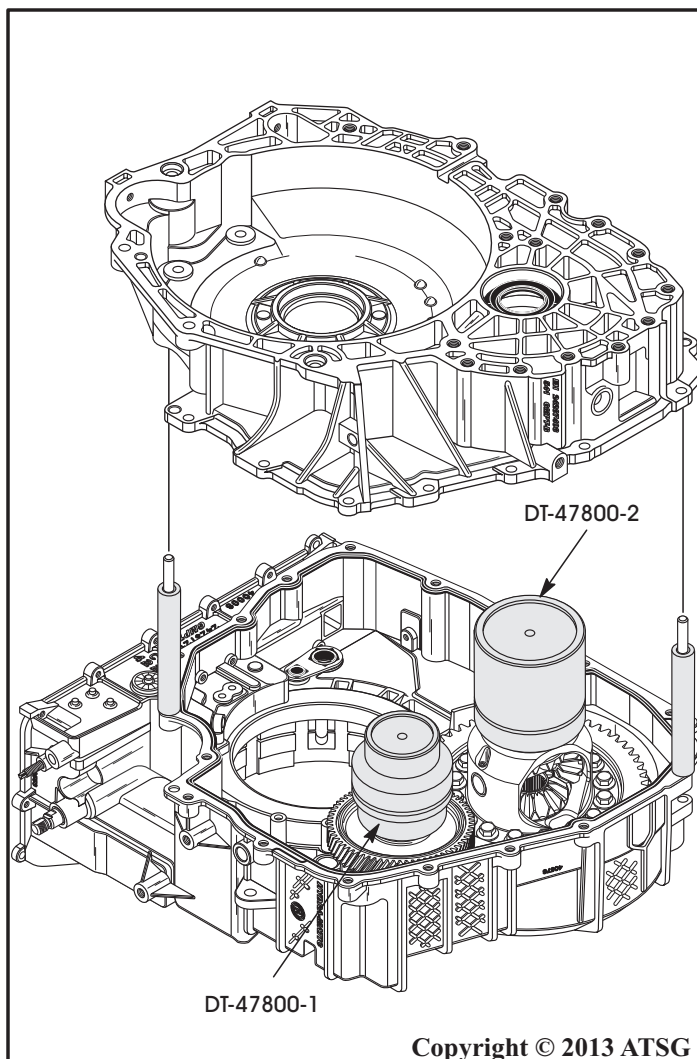

Figure 94
8. Install the empty converter housing down onto the spacers and onto the installed gauges, as shown in Figure 94.